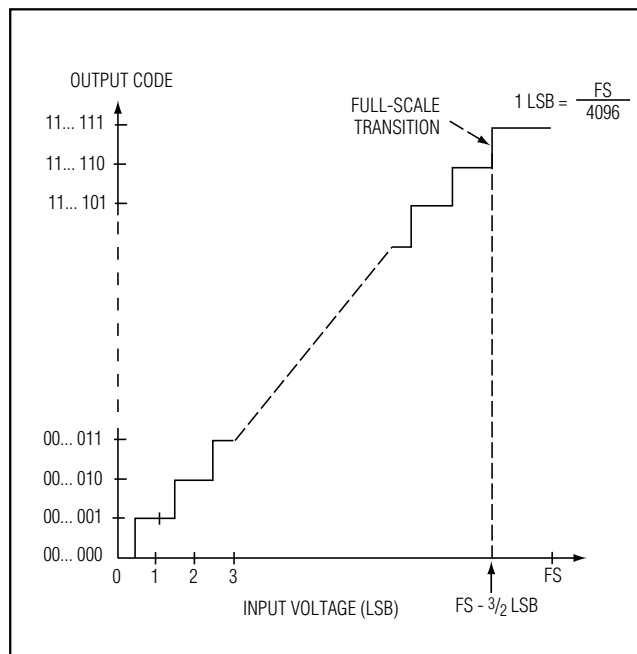

Figure 10. Unipolar Transfer Function
Output data coding for the MAX197 is binary in unipolar mode with  $1\text{LSB} = (\text{FS} / 4096)$  and two's-complement binary in bipolar mode with  $1\text{LSB} = ((2 \times |\text{FS}|) / 4096)$ . Code transitions occur halfway between successive-integer LSB values. Figures 10 and 11 show the input/output (I/O) transfer functions for unipolar and bipolar operations, respectively. For full-scale (FS) values, see Table 1.